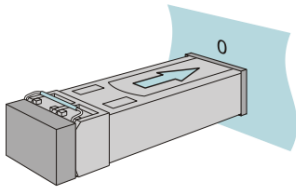

Figure 28: Installing the transceiver
- ☐ Push the SFP transceiver with the lock closed into the slot until it latches in. See Figure 28.